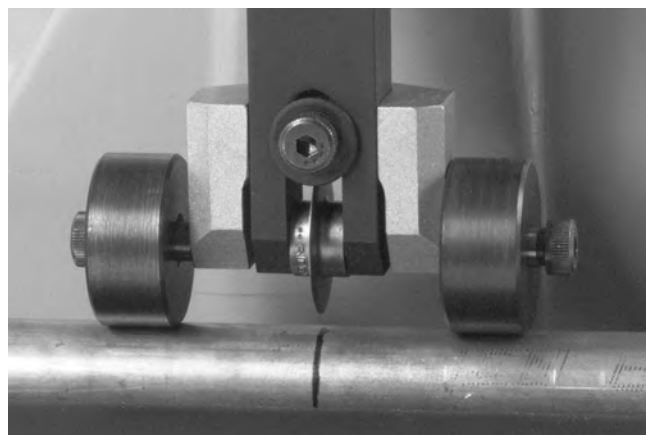

Figure 9 – Cutter Wheel Support Rollers Contacting Tubing
4. Lower the handle until the cutter wheel support rollers contact the tubing (*Figure 9*). Align the cutter wheel with the mark on the tubing.